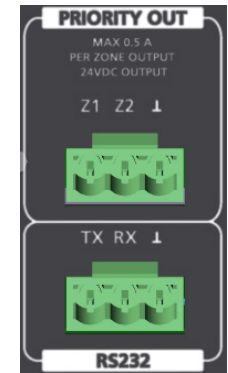

Figure 9. Priority Out & RS232
1. See Figure 9. Connect the 3-pin Euroblock to the override relay in any line-in volume controls wired in the loudspeaker line for Zones 1 and/or 2, as required.
1. See Figure 9. Connect an external device to the PREZONE2 via the RS232 connection. RS232 serves as a text command interface with the following port parameters: